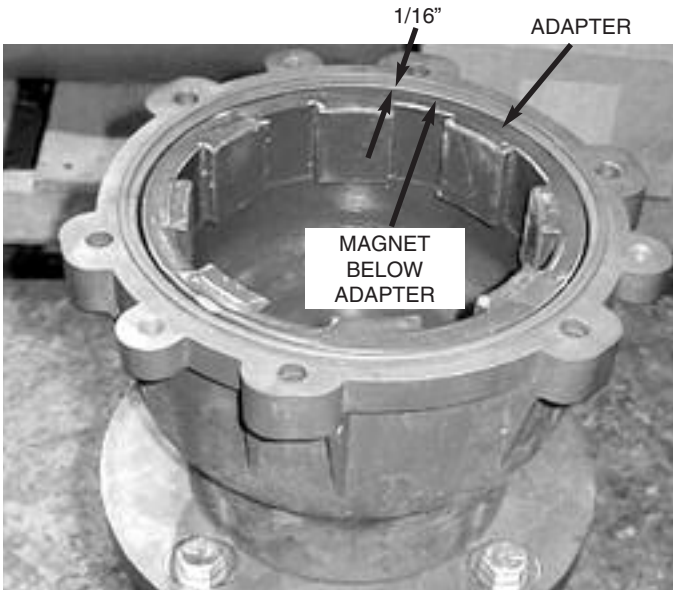

FIGURE 13
8. Install 2 set screws (25) into drive magnet (5). Do not allow set screws to protrude into shaft/key area.
9. Install drive magnet with set screws onto shaft of motor. Drive bell should be approximately 1/16" below adapter surface as shown in **Figure 13**. Check that disk (7) does not hit magnet when magnet is rotated with disk (7) in position.